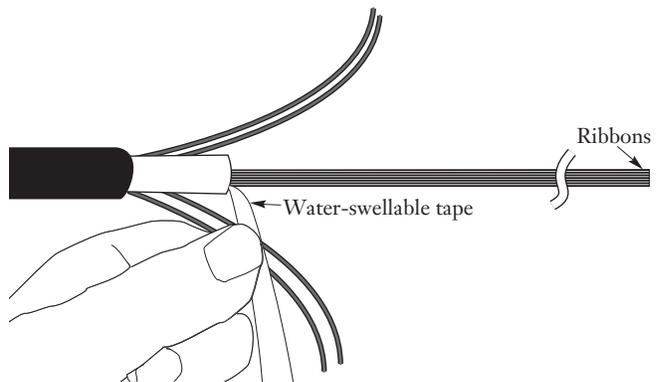

Figure 14
- 5.4 Use scissors to carefully cut the tape at the buffer tube, making sure not to cut any ribbons (Figure 14).